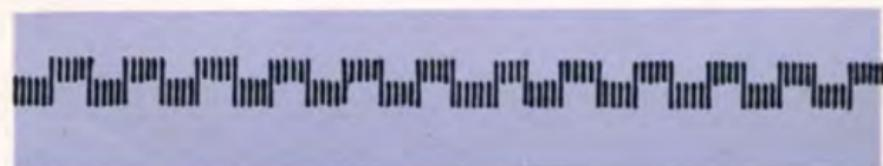

Fig. 40
**c) To make the design shown in Fig. 40**